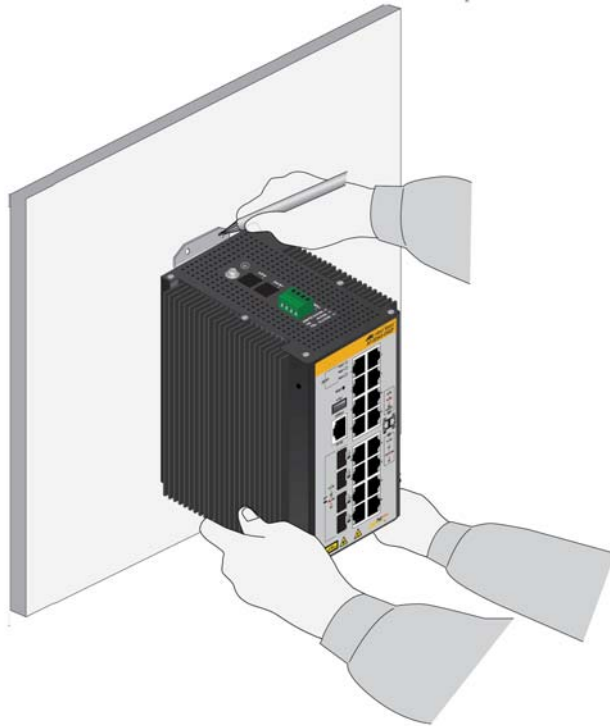

Figure 27. Marking the Locations of the Bracket Holes on a Concrete Wall
4. Have a person hold the switch on the concrete wall at the selected location for the device while you use a pencil or pen to mark the wall with the locations of the four screw holes in the two wall brackets. Refer to Figure 27 on page 81.
- ☐ The switch must be oriented as shown in Figure 27. You may not install the switch horizontally or upside-down.